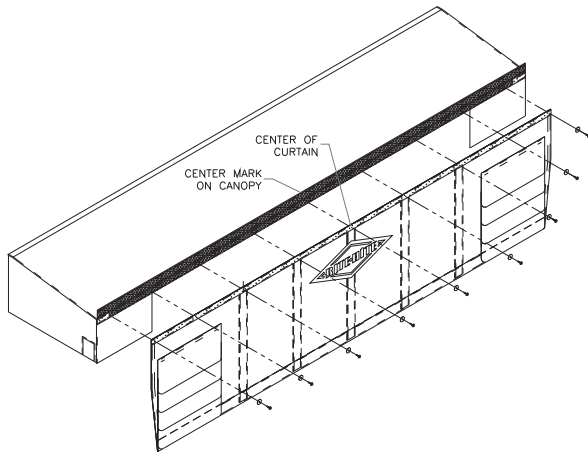

FIGURE 1
2. Using the velcro on the curtain face and velcro on the front bar, temporarily hang the curtain face from the canopy top cover. Make sure curtain face top edge is aligned with the front bar. There will be slight variations in the velcro location on the front bar, so make sure you align the two edges and not the velcro(s). Also, make sure that the curtain face is underneath the canopy top cover front flap and that it is centered on the mark made in the previous step. The middle stay on the C4 Style curtain face should align with the mark made in step 1. See Figure 1) (Go to 5162-0004 for gutter installation instructions)
The first step requires cutting two vertical slits in the outside edge of the side curtain with a utility knife. If the slits are already present and at the correct location as described in Figure 1, this step can be skipped. Generally, the slits will only need to be cut during installation if you are installing a replacement head curtain.